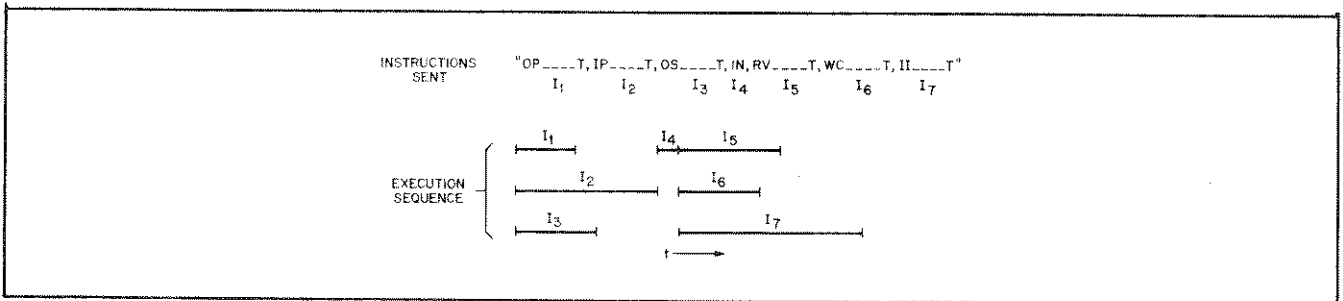

Figure 5-9. Interrupt Now Instruction in Parallel Mode
1. The interrupt Now (IN) instruction separates two groups of parallel instructions by not allowing the second group to start until all instructions (except OI and II) in the first group have completed. Figure 5-9 illustrates an IN instruction (I4) separating two parallel groups (I1, I2, I3 and I5, I6, I7). When the last instruction in the first group completes (I2 in this example), I4 executes and allows the next group (I5, I6, I7) to run concurrently.